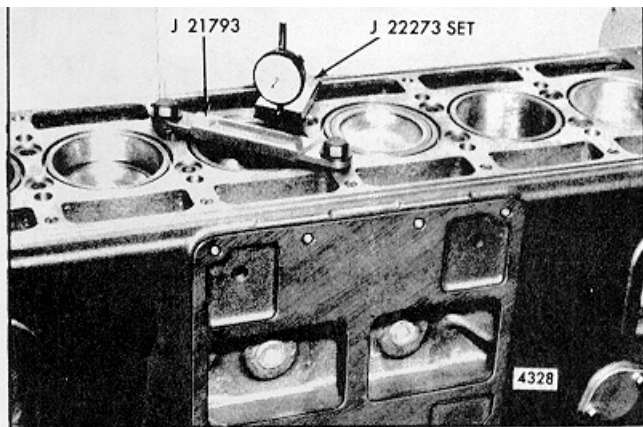

Fig. 12 - Checking Distance of Liner Flange Below Top Face of Block
4. Install a cylinder liner hold-down clamp as illustrated in Fig. 12.
5. Measure the distance from the top of the liner to the top of the block with a dial indicator (Fig. 12). The liner